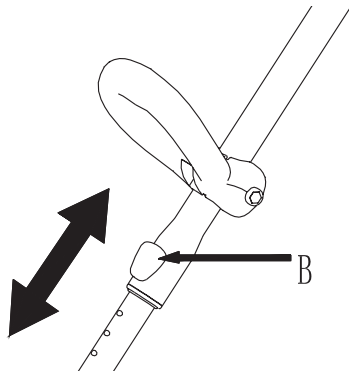

Fig. 7
2. Push shaft length adjustment button (B) and move upper shaft up or down to desired length. (Fig. 7)